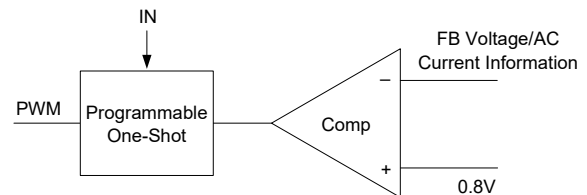

Figure 2. Simplified Control Schematic of AOZ2255EQI-30
The control algorithm of AOZ2255EQI-30 is constant-on-time PWM control with input feed-forward. The simplified control schematic is shown in Figure 2. The high-side switch on-time is determined solely by a one-shot whose pulse width is inversely proportional to input voltage (IN). The one-shot is triggered when the internal 0.8V is higher than the combined information of FB voltage and the AC current information of inductor, which is processed and obtained through the sensed low-side MOSFET current once it turns-on. The added AC current information can help the stability of constant-on time control even with pure ceramic output capacitors, which have very low ESR. The AC current information has no DC offset, which does not cause offset with output load change, which is fundamentally different from other V^2 constant-on time control schemes.